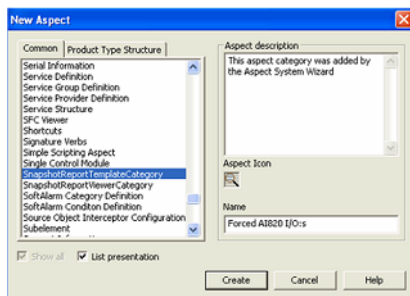

Figure 5. Creation of a Snapshot Report template.
2. Browse to the SnapshotReportTemplate aspect, the **Name** field displayed in Figure 5 requires a unique and easily understandable name.